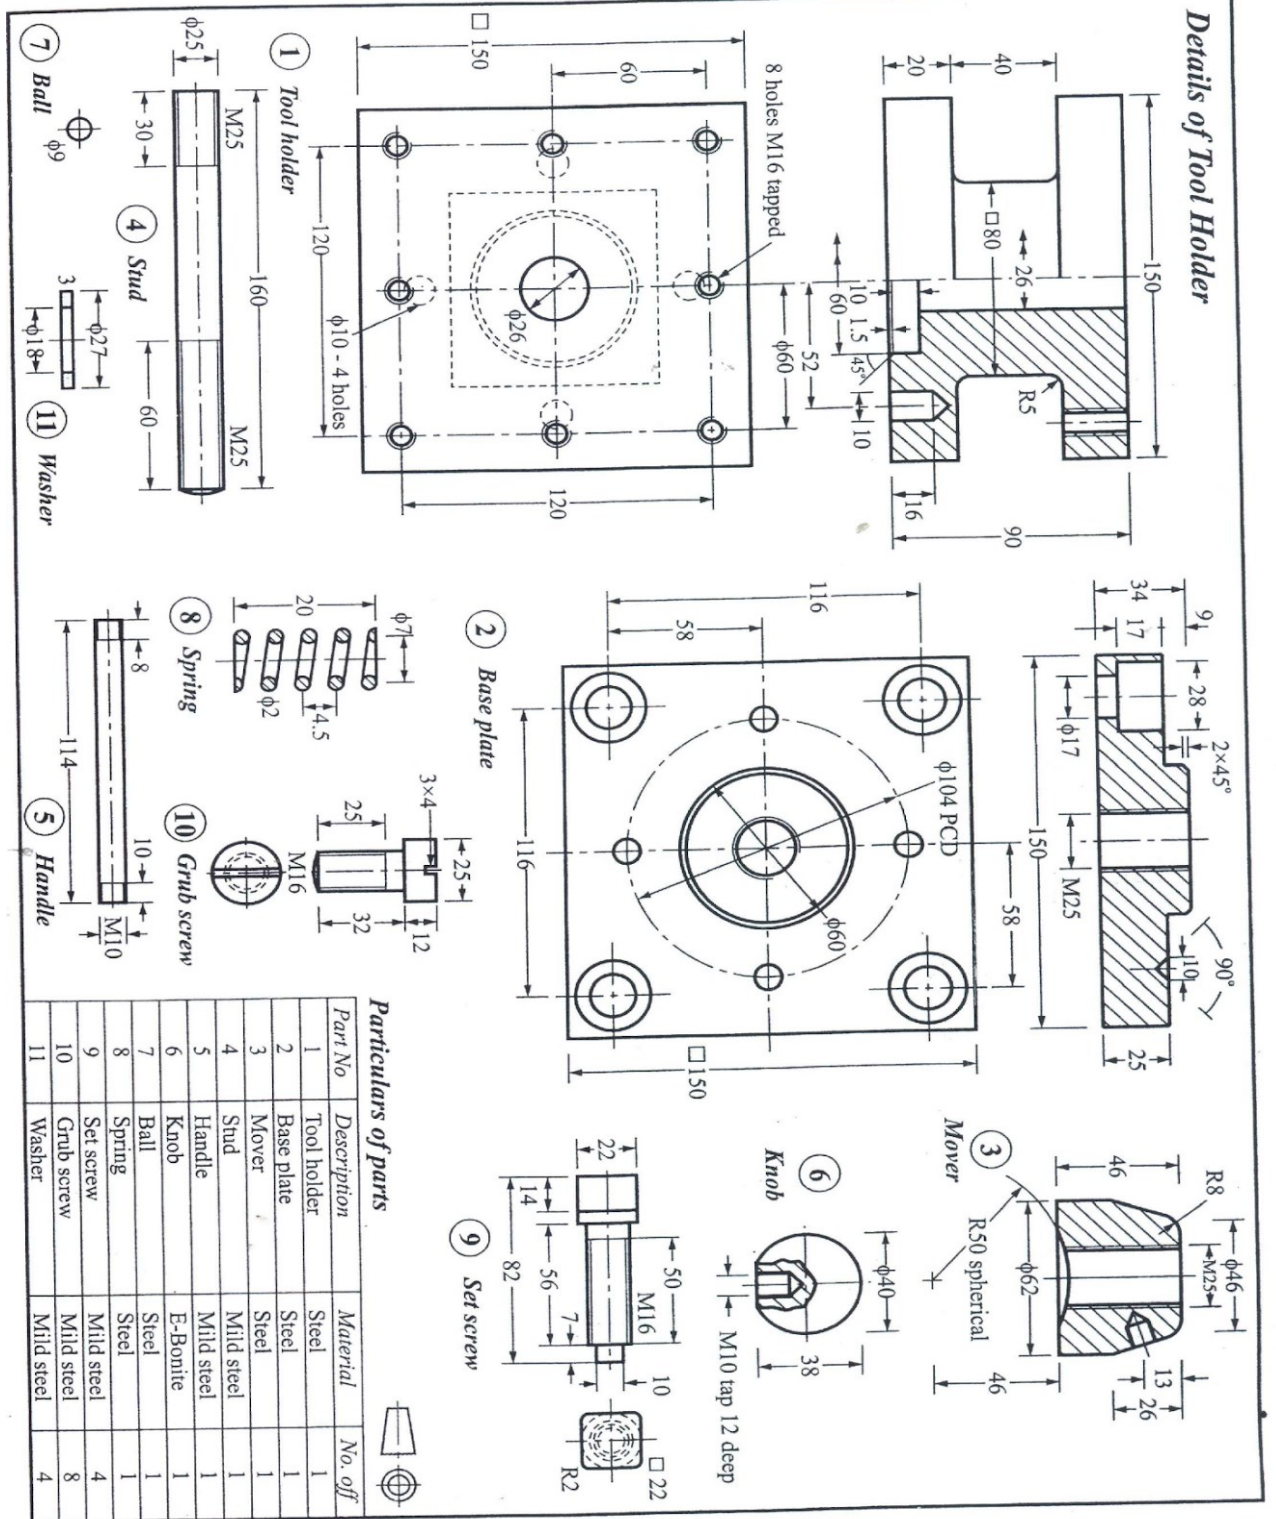

Figure 1 'SQUARE HEADED TOOLPOST'
5. Details of 'SQUARE HEADED TOOLPOST' are shown in following Figure 1. Assemble the parts and draw the following views of the assembly.